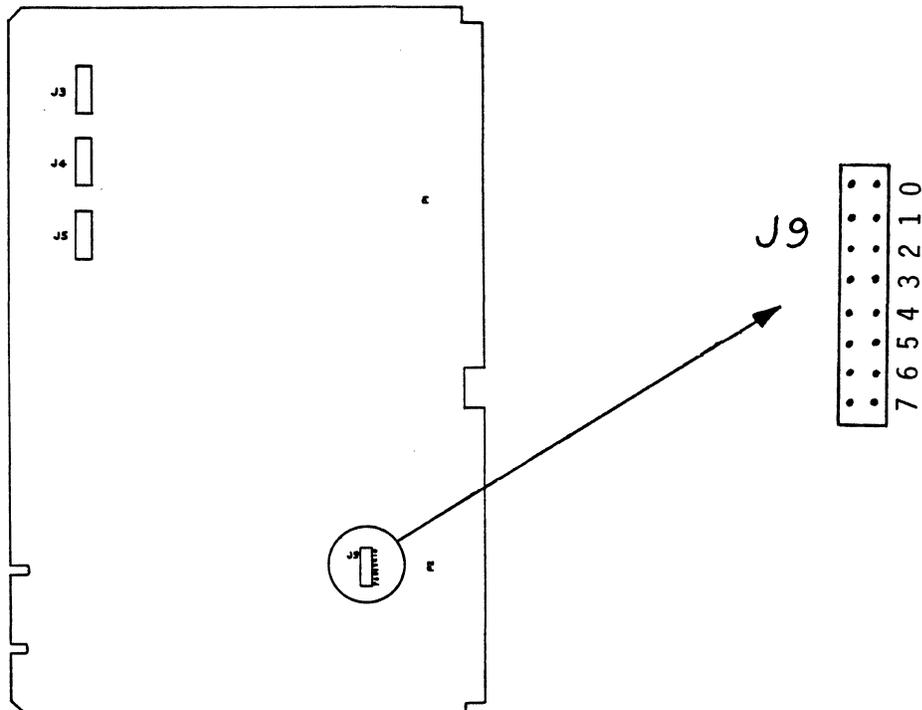

figure 4
9. If this procedure was used to swap a refresh card, then go to step 10. If a new card is being added, you will need to remove the Color Lookup board. This board will be the fourth board from the left. Refer to figure 4. Locate header J9. This header has eight sets of pins, one set for each plane. The shorting plugs should be installed in the proper pin location if that plane is NOT installed in the system. If a plane is being added, then remove the shorting plug which corresponds to that plane number. Reinstall the Color Lookup board into the system.